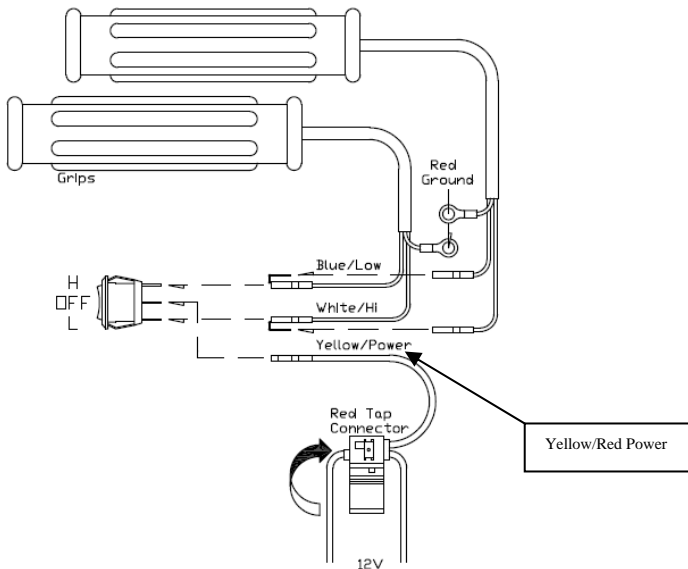

Figure 1. Connector guide & switch connections.
7. Locate a voltage controlled power wire (such as one leading to a headlight, taillight, or dash light). Using the red tap connector, place this power wire into the continuous channel. Insert the yellow/red wire (do not strip insulation) into the adjacent channel. Using pliers, press the metal contact flush with top of connector. Close the hinged cover until latched. See Figure 1 for connection to switch.
8. Connect wires to switch per Fig. 1 and press switch into switch hole.